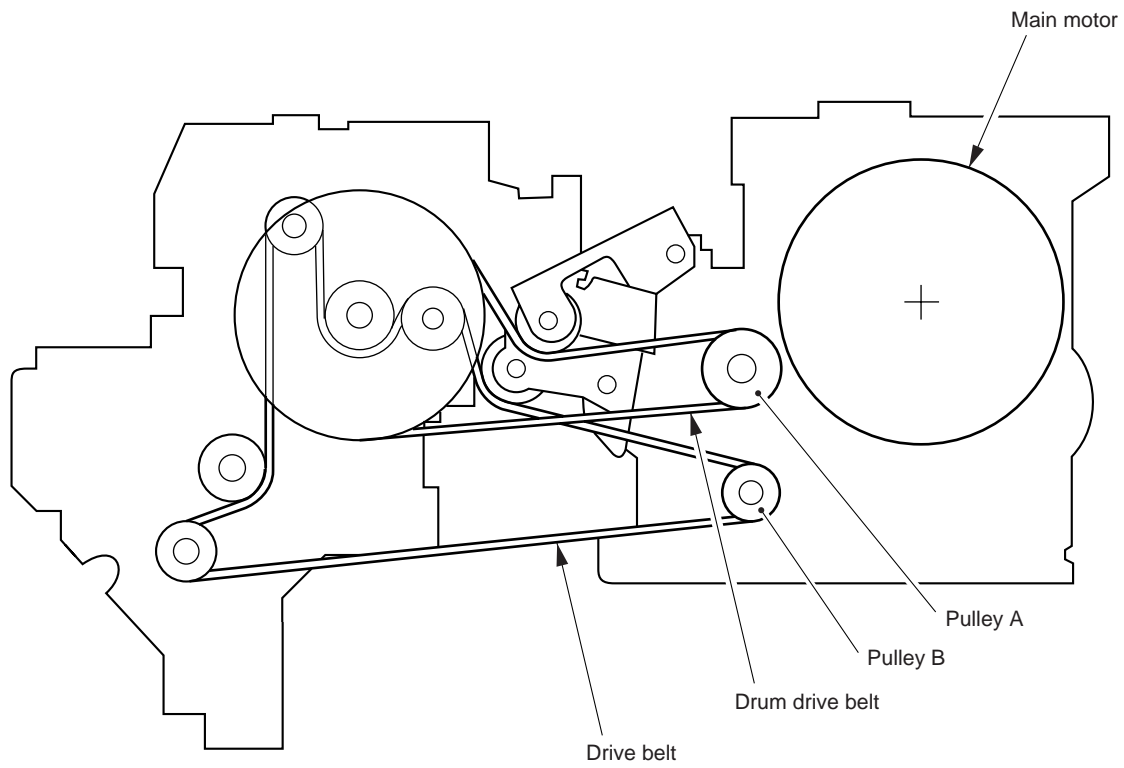

Figure 7-424
- 8) Remove the six screws ⑫, and detach the timing belt from pulleys A and B (Figure 7-424); then, remove the main drive assembly ⑬.